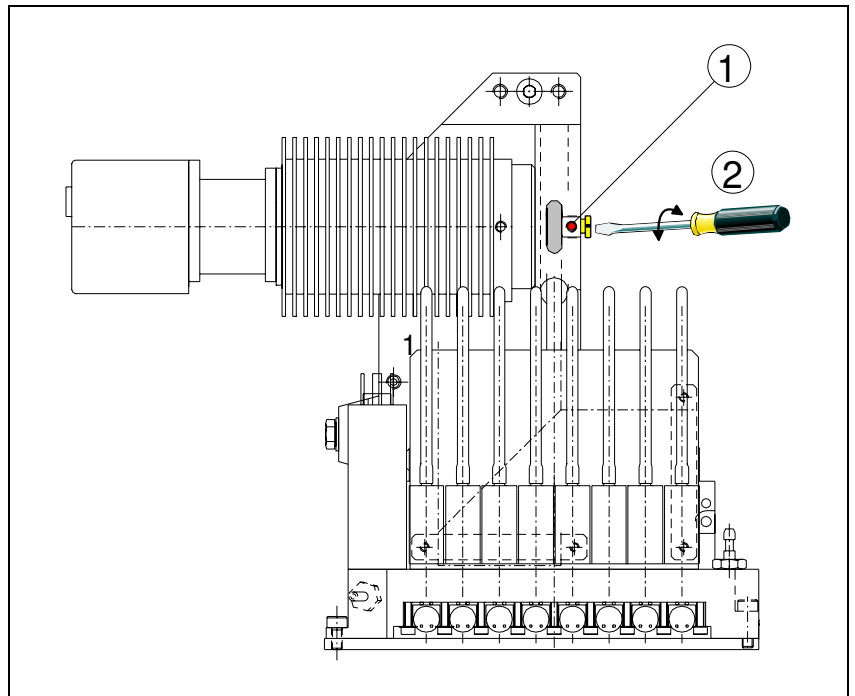

Figure 6-10. HZ Cog play adjustment.
2. Loosen the locking screw (1) in Figure 6-10).
3. Turn the eccentric adjustment screw (2) slightly to reduce (too little cog play) or increase (too much cog play) the pressure of the bearing against the gear rack.